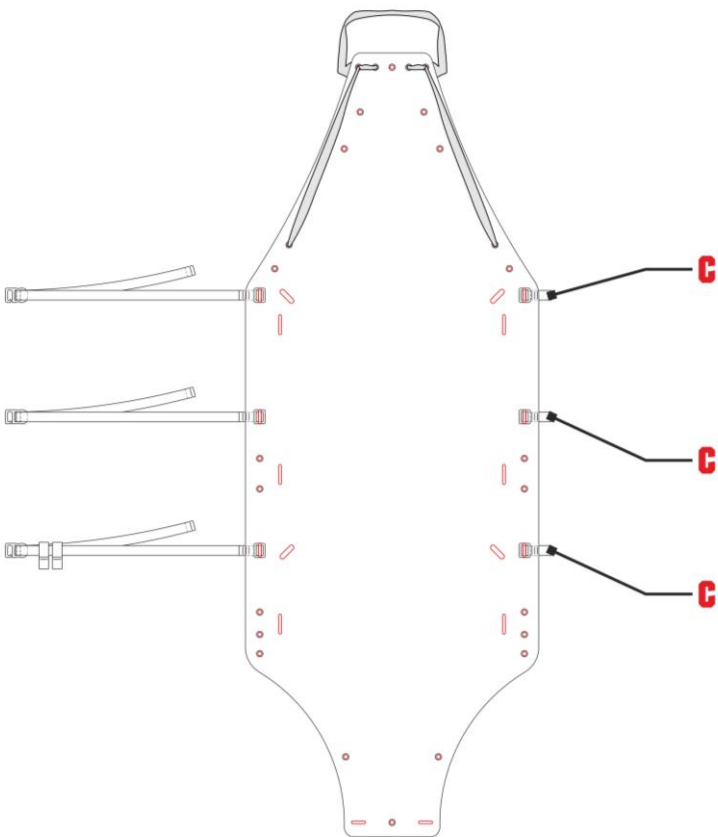

Fig. 11
- c) insert the tape with slots (C) into the slots A2 of the support surface (fig. 11),